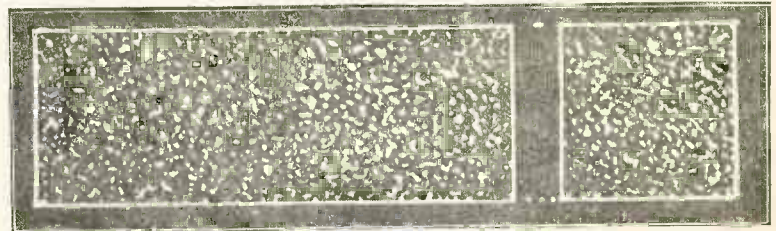

Fig. 1. Block Like This Needed for Good Work
grain, using moderate pressure and taking care when working near the edges, not to round them. Figure 1 shows how block will look. Wipe all dust from the surface with a clean cloth free from any trace of grease, taking care that *all* the dust is removed, otherwise it will make rough spots. (2) Staining comes next. If one of the cheaper woods, such as pine or poplar is used, it may be stained to imitate the appearance of the more costly woods. By using the former, radio set cabinets can be made which will look as if expensive natural-colored lumber had been used. In wood finishing work, trouble will be avoided by purchasing the very best stains and varnishes obtainable.